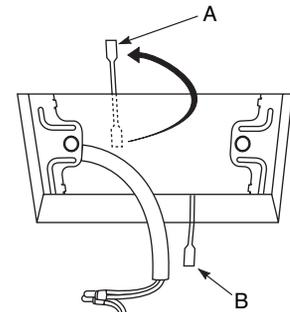
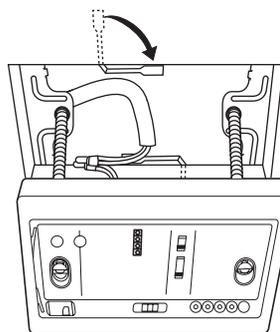

Fig. 7-20
Fig. 7-21
- (4) Fit securely into the ceiling material at sections (A) and (B) as shown in Fig. 7-20.
- (5) Connect the wire (2-wire core) from the signal receiving unit with the wire from the indoor unit. (See section on how to wire the receiving unit.) as shown in Fig. 7-20.
- (6) Use the supplied spacers to adjust for a thickness several inches more than the ceiling material and lightly fasten the receiving unit in place with the small screws (M4 × 1-9/16 in., 2 pcs.) supplied with the unit.
- (7) Tighten the machine screws after fitting sections (A) and (B) into the openings, in the gap between the signal receiving unit and ceiling surface as in Fig. 7-21. Do not apply strong force when tightening the screws. Excessive force might warp or damage the cover. When finished, the signal receiving unit should still be able to move slightly when pressed as shown in Fig. 7-21.
- (8) Reinstall the cover plate.